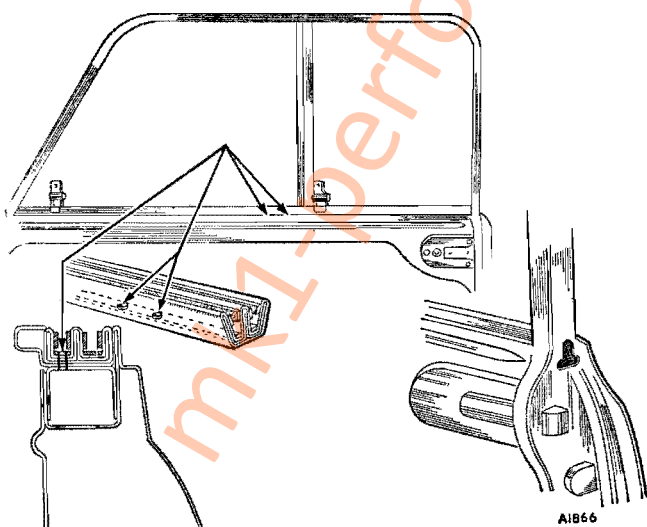

Fig. R.25
- (1) Close the door windows.
- (2) Mark off two centres in both the front door glass channels, one  $\frac{1}{2}$  in. (12.7 mm.) and the other 1 in. (25.4 mm.) in front of the rear sliding glass (see Fig. R.25).
- (3) Remove the windows as described in Section R.7 and drill the holes through each channel section and retaining strip.
- (4) Refit the channel supports and the windows. Push the rear window vertical channel section down until it abuts the base of the chrome retainer.
- (5) Elongate the drain holes in the front and rear of each door until the resulting slots are the same height as the glass channel supports.